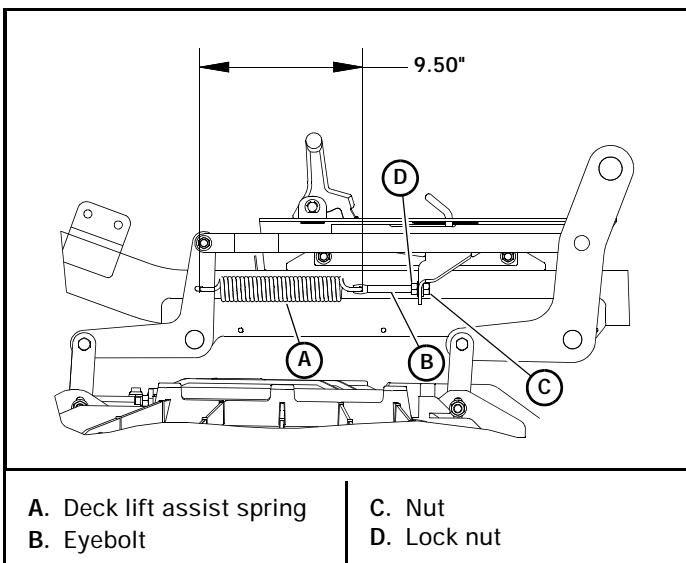

Figure 6-4
8. Unscrew the nut from the eyebolt and slide the eyebolt out of the mount. This removes the tension from the deck lift assist spring. Figure 6-4
11. Reinstall the eyebolt and deck lift assist spring. Adjust the spring tension using the lock nut and nut on the eyebolt. The spring extension should be 9.50" (241.3 mm) when locked in the transport position. Figure 6-4